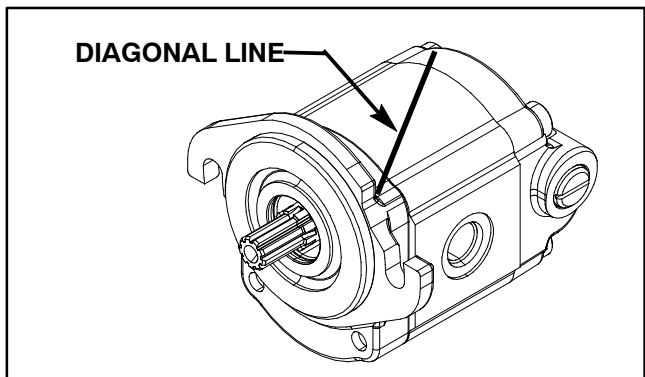

Figure 86
2. Use a marker to make a **diagonal** line across the front flange, body and rear cover for assembly purposes (Fig. 86).